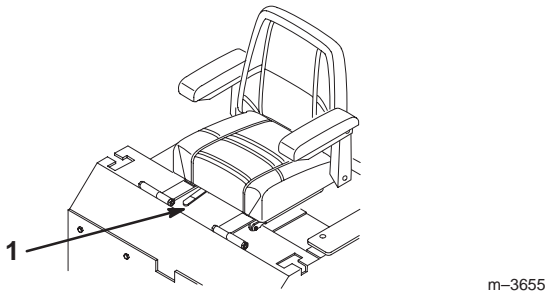

Figure 21
1. To adjust, move the lever sideways to unlock the seat (Fig. 21).